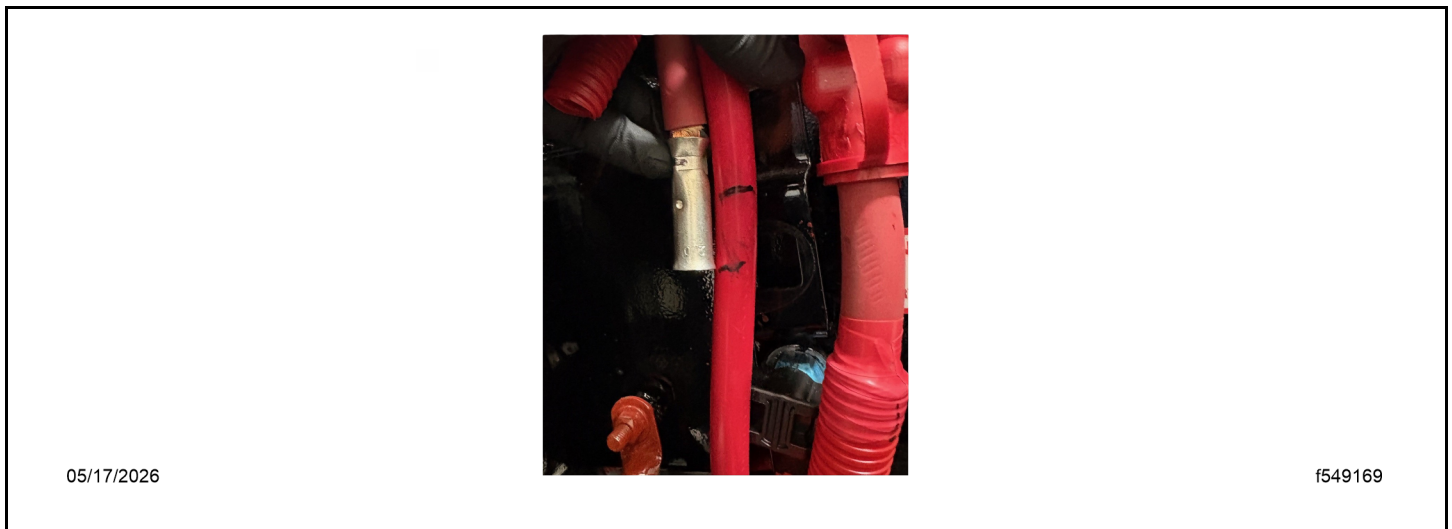

Fig 153, Determining the BCA Cable Length
37. Determine the ideal length for the new auxiliary BCA cable between the starter and butt connector. Cut the cable. See Fig. Fig. 153.